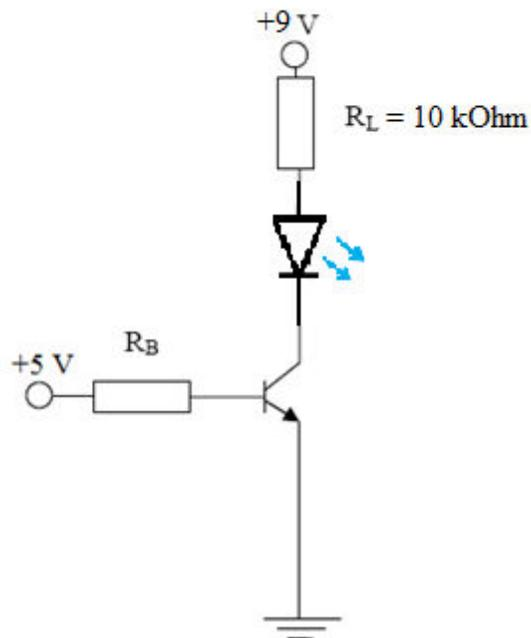

Figure 12: Transistor switching a resistive load
- 1) Connect the circuit shown in figure 12.